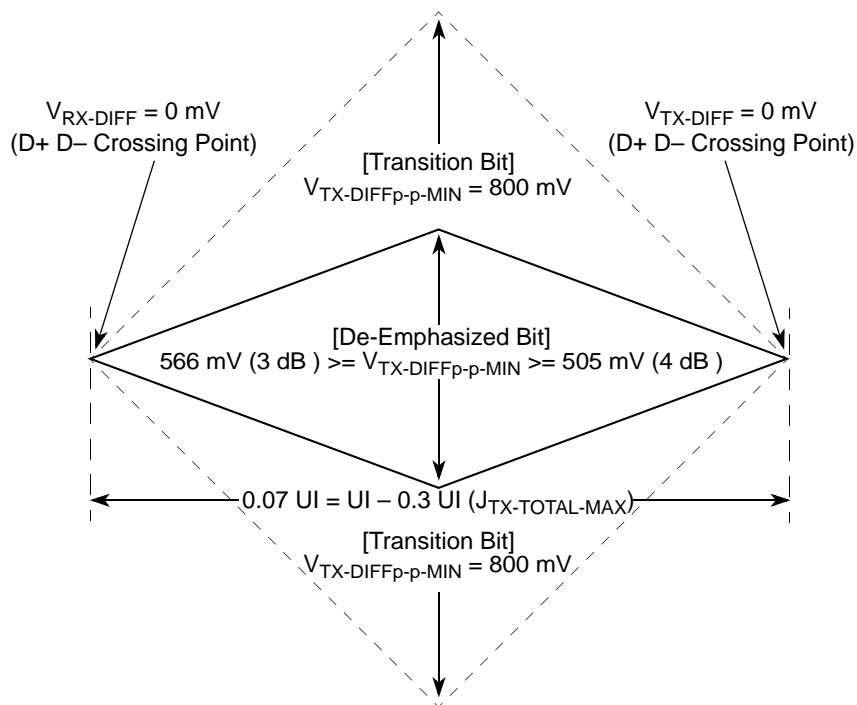
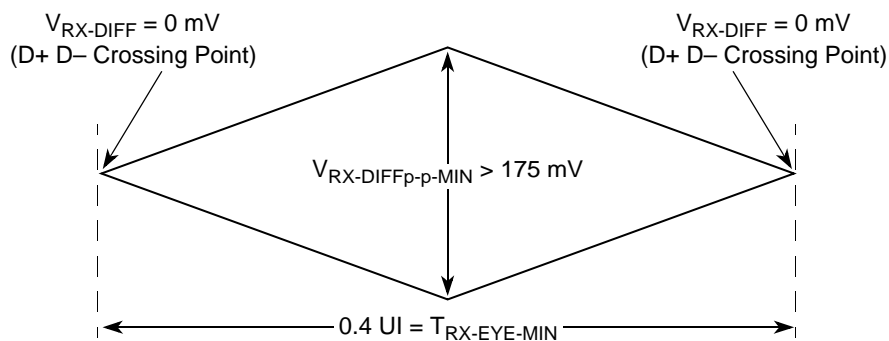
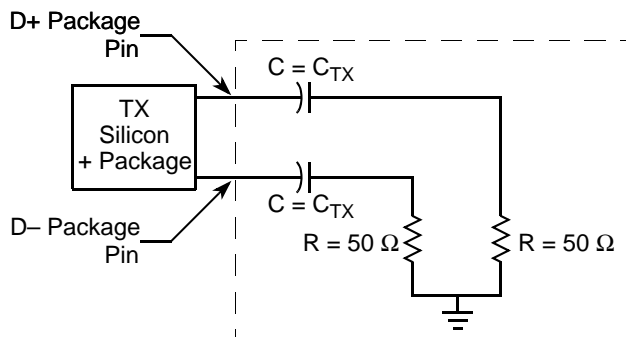

Figure 55. Minimum Transmitter Timing and Voltage Output Compliance Specifications
Figure 56. Minimum Receiver Eye Timing and Voltage Compliance Specification
Figure 57. Compliance Test/Measurement Load
2. Specified at the measurement point into a timing and voltage compliance test load as shown in Figure 57 and measured over any 250 consecutive TX UIs. (Also refer to the transmitter compliance eye diagram shown in Figure 55.)
4. The Transmitter input impedance shall result in a differential return loss greater than or equal to 12 dB and a common mode return loss greater than or equal to 6 dB over a frequency range of 50 MHz to 1.25 GHz. This input impedance requirement applies to all valid input levels. The reference impedance for return loss measurements is 50 ohms to ground for both the D+ and D- line (that is, as measured by a Vector Network Analyzer with 50 ohm probes—see Figure 57). Note that the series capacitors C_{TX} is optional for the return loss measurement.
5. Measured between 20-80% at transmitter package pins into a test load as shown in Figure 57 for both $V_{\text{TX-D+}}$ and $V_{\text{TX-D-}}$.
The TX eye diagram in Figure 55 is specified using the passive compliance/test measurement load (see Figure 57) in place of any real PCI Express interconnect + RX component.
2. Specified at the measurement point and measured over any 250 consecutive UIs. The test load in Figure 57 should be used as the RX device when taking measurements (also refer to the Receiver compliance eye diagram shown in Figure 56). If the clocks to the RX and TX are not derived from the same reference clock, the TX UI recovered from 3500 consecutive UI must be used as a reference for the eye diagram.
4. The Receiver input impedance shall result in a differential return loss greater than or equal to 15 dB with the D+ line biased to 300 mV and the D- line biased to -300 mV and a common mode return loss greater than or equal to 6 dB (no bias required) over a frequency range of 50 MHz to 1.25 GHz. This input impedance requirement applies to all valid input levels. The reference impedance for return loss measurements for is 50 ohms to ground for both the D+ and D- line (that is, as measured by a Vector Network Analyzer with 50 ohm probes - see Figure 57). Note: that the series capacitors CTX is optional for the return loss measurement.
The RX eye diagram in Figure 56 is specified using the passive compliance/test measurement load (see Figure 57) in place of any real PCI Express RX component.
Note: In general, the minimum Receiver eye diagram measured with the compliance/test measurement load (see Figure 57) is larger than the minimum Receiver eye diagram measured over a range of systems at the input Receiver of any real PCI Express component. The degraded eye diagram at the input Receiver is due to traces internal to the package as well as silicon parasitic characteristics which cause the real PCI Express component to vary in impedance from the compliance/test measurement load. The input Receiver eye diagram is implementation specific and is not specified. RX component designer should provide additional margin to adequately compensate for the degraded minimum Receiver eye diagram (shown in Figure 56) expected at the input Receiver based on some adequate combination of system simulations and the Return Loss measured looking into the RX package and silicon. The RX eye diagram must be aligned in time using the jitter median to locate the center of the eye diagram.
The reference impedance for return loss measurements is 50. to ground for both the D+ and D- line (that is, as measured by a Vector Network Analyzer with 50. probes—see Figure 57). Note that the series capacitors, CTX, are optional for the return loss measurement.
The AC timing and voltage parameters must be verified at the measurement point, as specified within 0.2 inches of the package pins, into a test/measurement load shown in Figure 57.